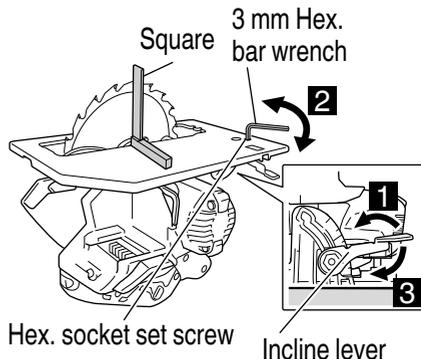

Fig. 40
6. Adjusting the base and saw blade to maintain perpendicularity (**Fig. 40**)